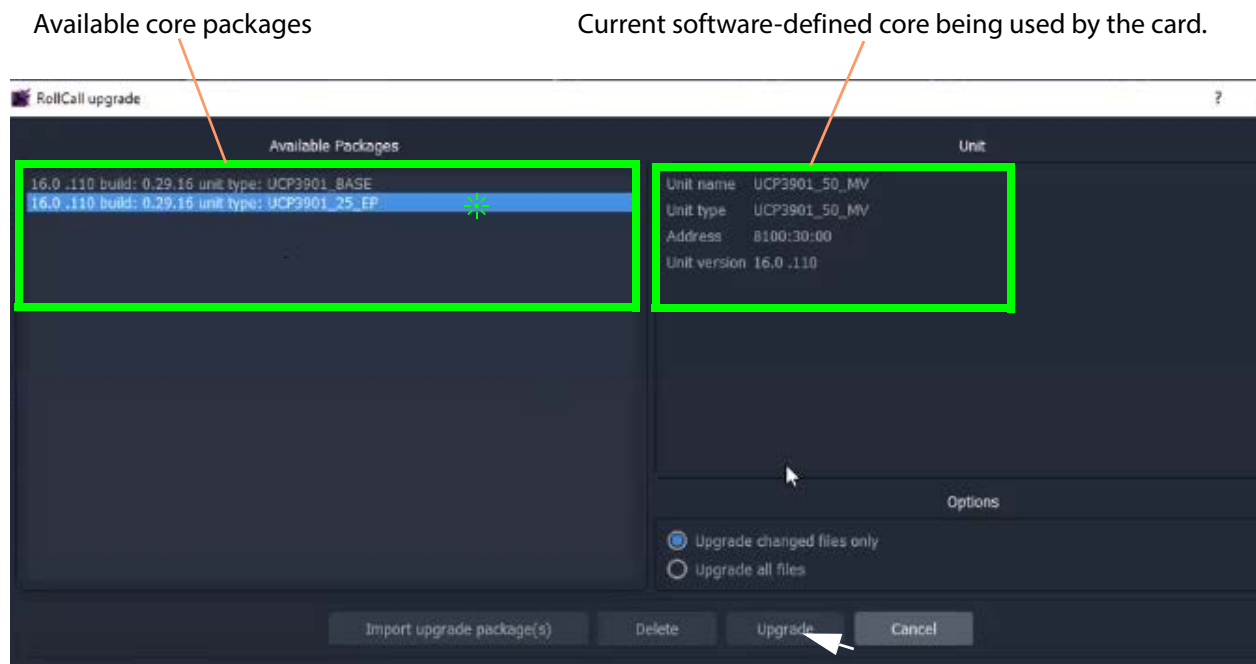

Fig. 2-32: RollCall Upgrade Window - Available Cores
- all available (imported) core packages.See Figure 2-32.